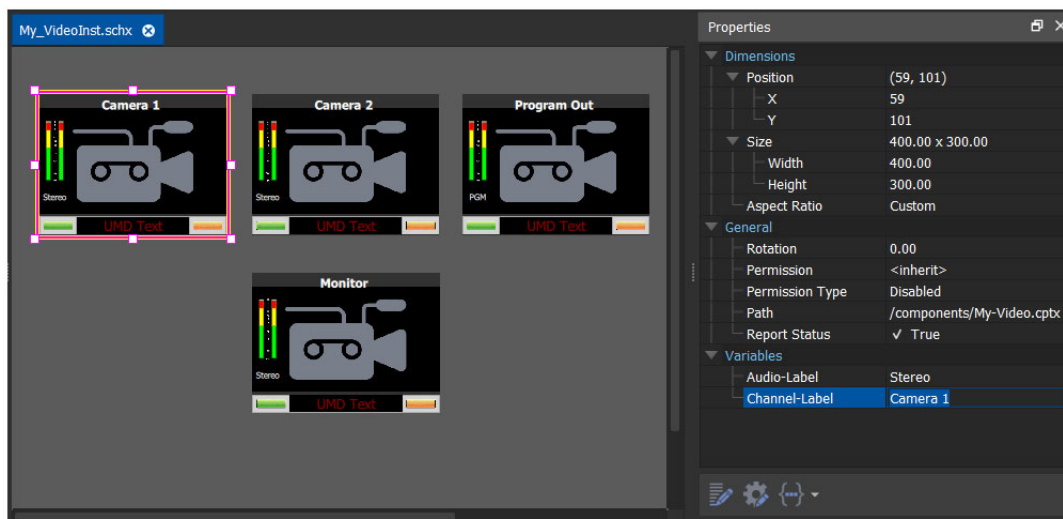

Fig. 4-33: Changing Value of a Component Variable at the 'Screen-Level'
- Select the 'Channel-Label' property and change its value to 'Camera 1'. See Figure 4-33.
Each of the components on the screen can now have different settings for their 'Audio Label' and 'Channel Label' widgets. See Figure 4-33.